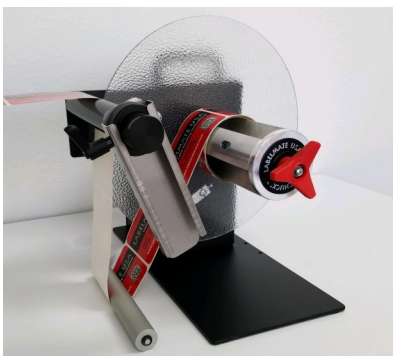

FIG. 14
- Feed the label web from the printer over the black shaft, under the Tension Arm, and secure it to the take-up roll core with tape. Rotate the take-up reel a couple of turns. FIG.13 and FIG.14 show the web path for standard external rewinding. This web path will provide the best and tightest finish-roll.